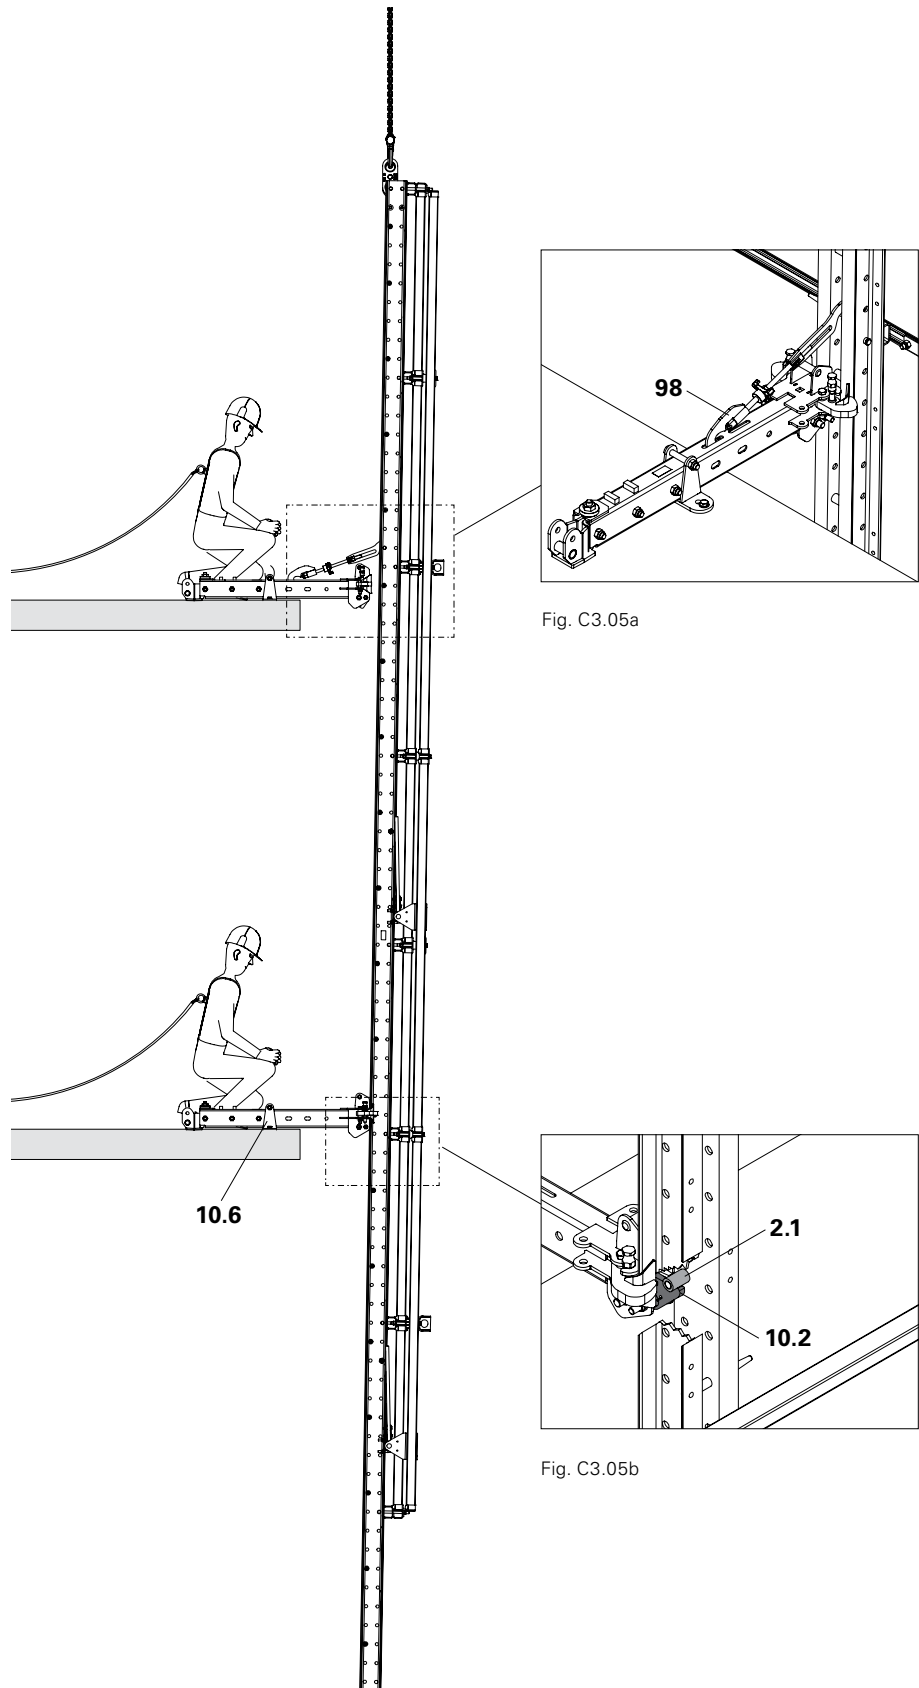

Fig. C3.05
9. Completely relieve crane and release crane lifting gear from a safe position. (Fig. C3.05)